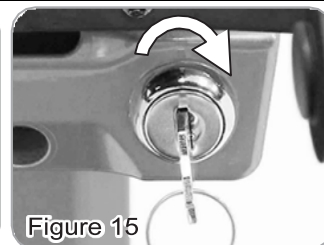

Figure 15
- Turn the key clockwise to turn on, counterclockwise to turn off (Figure 15).